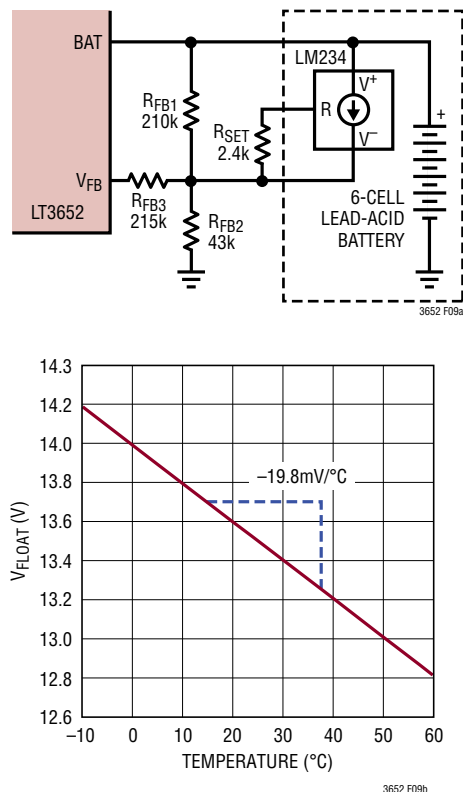
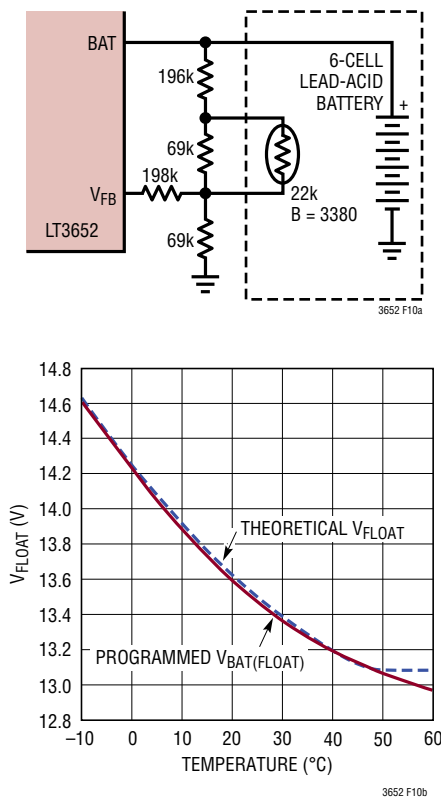

Figure 9. Lead-Acid 6-Cell Float Charge Voltage vs Temperature Has $-19.8\text{mV}/^\circ\text{C}$ Characteristic Using LM234 with Feedback Network
Figure 10. Thermistor-Based Temperature Compensation Network Programs V_{FLOAT} to Closely Match Ideal Lead-Acid Float Charge Voltage for 6-Cell Charger
or $-19.8\text{mV}/^\circ\text{C}$. Using the feedback network shown in Figure 9, with the desired temperature coefficient (TC) and 25°C float voltage ($V_{\text{FLOAT}(25^\circ\text{C})}$) specified, and using a convenient value of 2.4k for R_{SET} , necessary resistor values follow the relations:
While the circuit in Figure 9 creates a linear temperature characteristic that follows a typical $-3.3\text{mV}/^\circ\text{C}$ per cell lead-acid specification, the theoretical float charge voltage characteristic is slightly nonlinear. This nonlinear characteristic follows the relation $V_{\text{FLOAT}(1\text{-CELL})} = 4 \times 10^{-5} (T^2) - 6 \times 10^{-3} (T) + 2.375$ (with a 2.18V minimum), where T = temperature in $^\circ\text{C}$. A thermistor-based network can be used to approximate the nonlinear ideal temperature characteristic across a reasonable operating range, as shown in Figure 10.